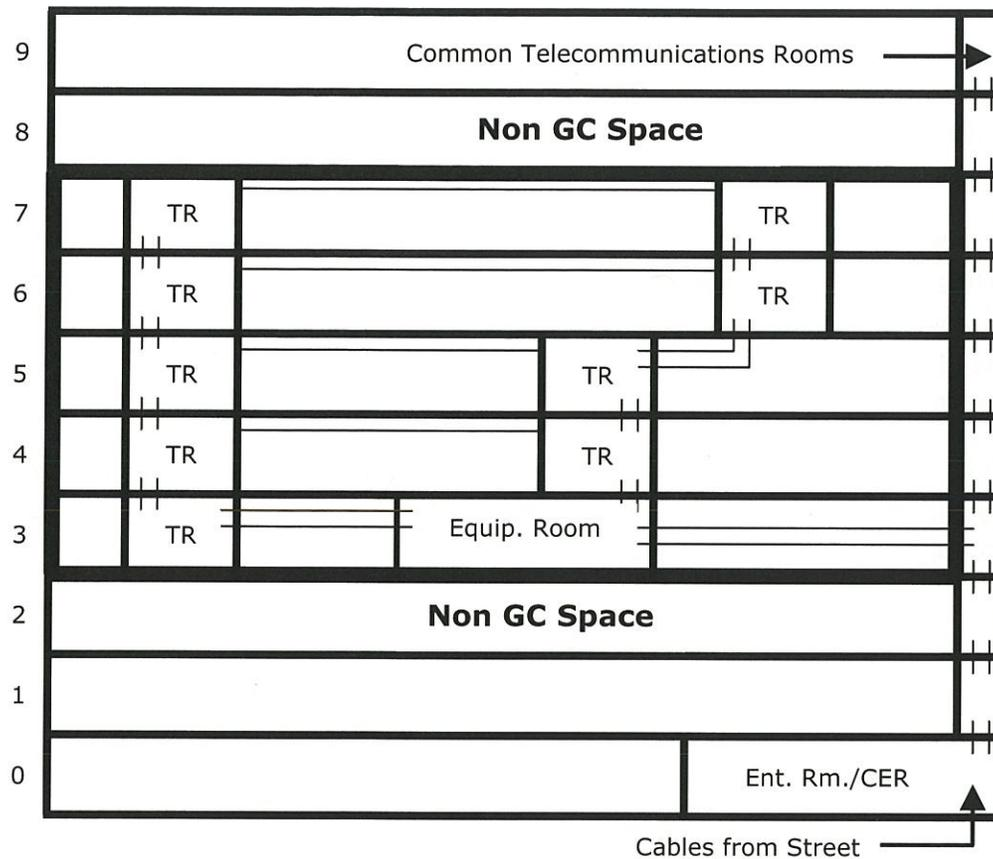

Figure 2: Telecommunications Spaces and Backbone Pathways in Leased Space
Figure 2 below illustrates the telecommunications infrastructure of spaces and backbone pathways in a typical building where the Crown has leased only some of the available office space. In this example, Government of Canada (GC) space is on floors 3 to 7 inclusive and thick lines are used to separate space occupied by the GC from both space leased to others, as well as the landlord's common spaces.
This example provides the same telecommunications infrastructure under Scenario 1 above, but is limited to the four floors of the building leased by PWGSC – see Figure 2: Telecommunications Spaces and Backbone Pathways in Leased Spaces. The Common Equipment Room, Entrance Room, and Common Telecommunications Rooms are located outside of the leased space.
An existing room is found that is suitable for use as a combined Telecommunications Room and Equipment Room. Backbone pathways are installed connecting this room to a Common Telecommunications Room located outside of the leased space (see Figure 2: Telecommunications Spaces and Backbone Pathways in Leased Spaces ). Given the small size of the space, J-hooks are used to support horizontal cable distribution. (Conduit or cable tray could also be used, if warranted by the characteristics of the space.)